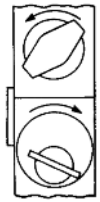

Figure 3-6
**A.** Insert cylinder key into cylinder on combination lock side of the door. Turn the key in a clockwise direction to the stop position, retracting the latch fully (**See Figure 3-6**). Hold the key in that position and turn the thumb turn to the left (counterclockwise). Bring the key to the pull position and remove.